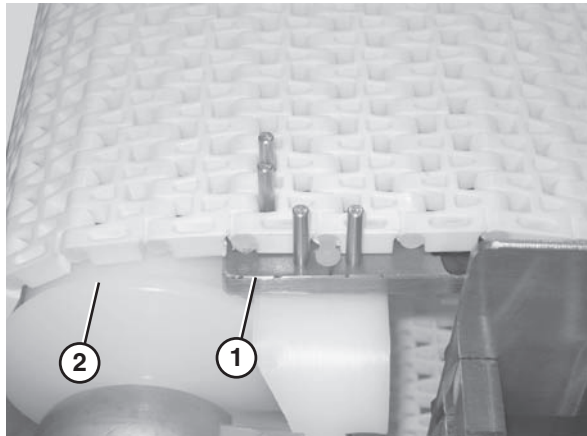

Figure 44
1. Secure the retaining head side of the belt. Use the belt removal tool (Figure 44, item 1) for 1" pitch belts. For all other belts, position the section of belt so that it is braced by the flanged puck (Figure 44, item 2).